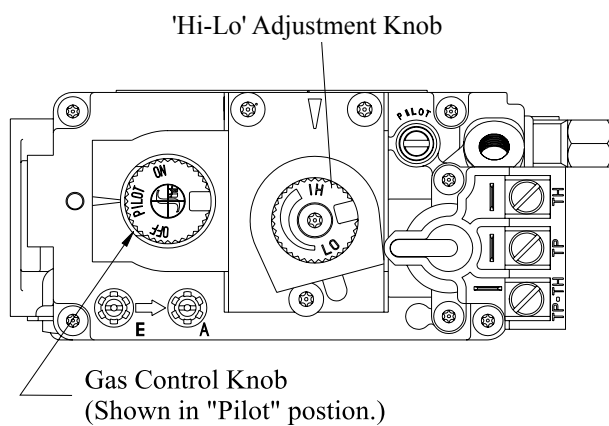

Figure 32. 'Hi-Lo' Adjustment on the L38DF-ST's gas valve.
The L38DF-ST is equipped with an adjustable burner, allowing you to raise or lower the flames. To adjust the flames, locate the black knob marked 'Hi-Lo', in the centre of the gas control valve (See Figure 32). The front burners are not adjustable.
- An inspection of the gas valve, gas components, and pilot flame. For your convenience a 1/8" manifold pressure tap is supplied on the gas valve for a test gauge connection. See Figure 32.